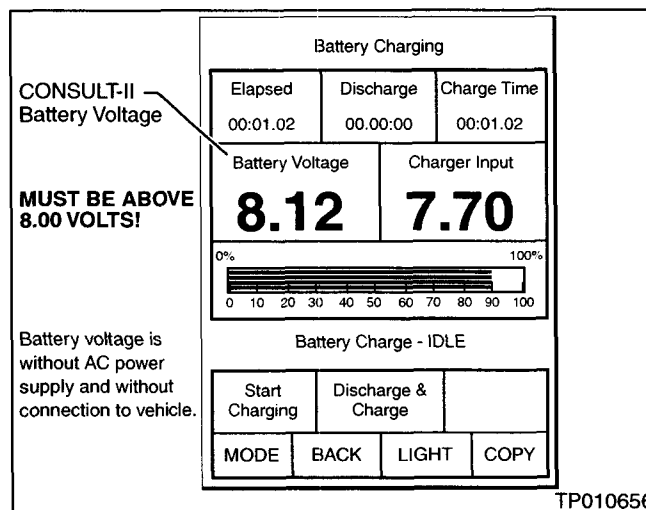

Figure 4
26. After about one minute has passed, check the CONSULT-II's battery voltage reading on the CONSULT-II screen (see Figure 4).